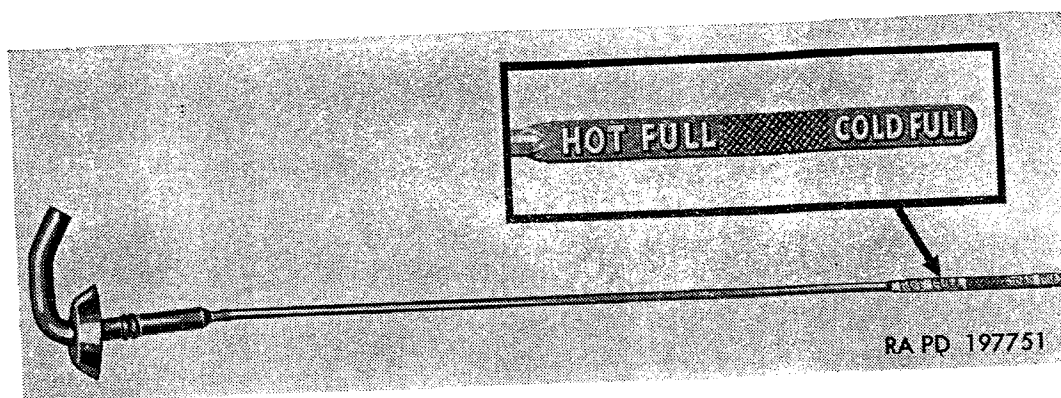

Figure 185. Transmission oil level indicator removed.
b. Checking Oil Level. Refer to lubrication chart (par. 69) for type of oil and lubrication intervals. Transmission oil level indicator (dipstick), located in the oil filler tube, has two level marks: COLD FULL—lower mark and HOT FULL—upper mark (fig. 185). COLD FULL mark is used for checking oil level when vehicle has not been run for an extended period. HOT FULL mark is used when checking oil level after vehicle has been run and engine and transmission are warmed to normal operating temperature. Transmission oil level must be checked in the following manner if a correct reading on indicator is to be obtained.
clean all dirt from area around indicator. With engine still running, withdraw indicator, wipe off, and reinsert. Again withdraw indicator. Oil level reading should be at approximately the COLD FULL mark on indicator (fig. 185).
- (2) *Transmission hot.* When vehicle has been run and engine and transmission are warmed to normal operating temperature, apply parking brake and start engine. Move transmission control lever into F-1 HIGH RANGE position and run engine at idling speed for 3 to 5 minutes. Lift floor plate to gain access to transmission level indicator; then clean all dirt from area around indicator. With engine still running, withdraw indicator, wipe off, and reinsert. Again withdraw indicator. Oil level reading should be approximately at HOT FULL mark on indicator (fig. 185).
c. Replenishing Oil. With transmission control lever in N (neutral) position and parking brake lever applied, start engine. Move transmission control lever into F-1 HIGH RANGE position. Clean all dirt from areas around filler cap; then remove filler cap and level indicator. Add sufficient oil to bring oil level up to reading on indicator (fig. 185), depending upon whether transmission is COLD or HOT as described in *b* above. Install filler cap and indicator; then recheck oil level.